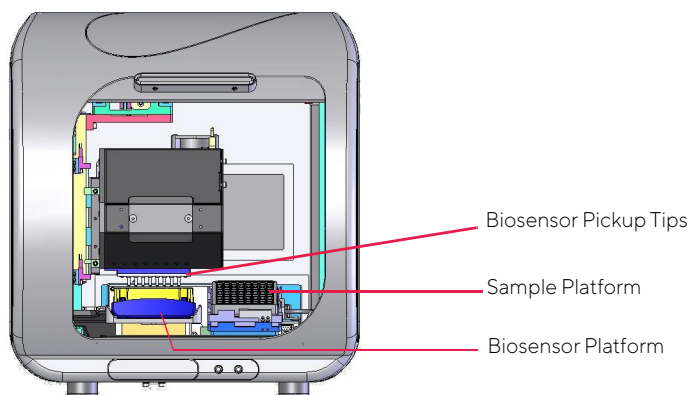

Figure 12-1: Octet[®] Instrument
3. Wipe the biosensor and sample platform (Figure 12-1).